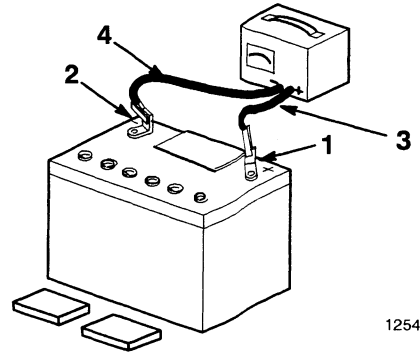

Figure 5
- Leave the filler caps off and connect a 3-4 amp battery charger to the battery posts (Fig. 5). Charge the battery at a rate of 4 amperes or less for 4 hours (12 volts).
- When the battery is fully charged, unplug the charger from electrical outlet, then disconnect the charger leads from the battery posts (Fig. 5).